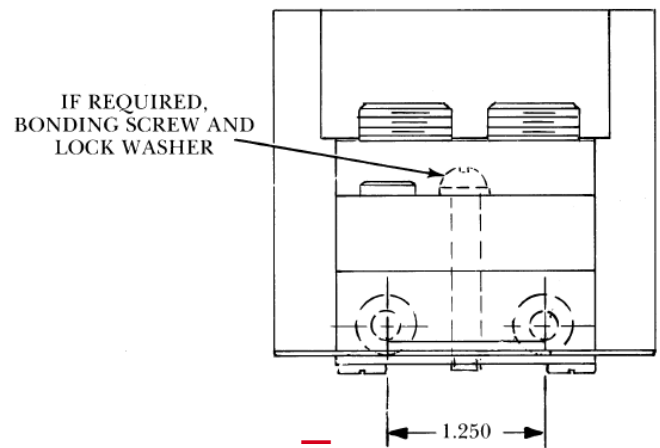

Figure 1 - Neutral
This kit is CSA listed for use as an insulated groundable neutral and may be installed in 200Amp type TH3364C and TH3364RC safety switches. Each kit contains the following parts. (See Figures 1 and 2):
Step 3: Install bonding screw as shown in Figure 1 (if required). Torque fastener to 17-20 in-lbs.